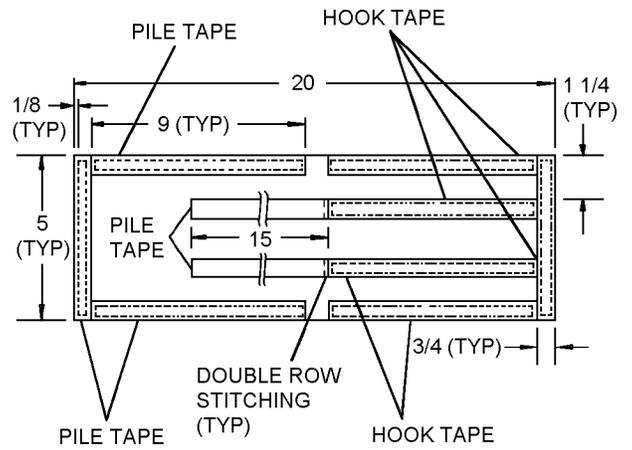

Figure 8-12. Painter Line Pouch
1. Cut and stitch hook and pile tape along edge of material. See figure 8-12.
2. Stitch two 9-inch lengths of hook tape 1 1/4 inch from sides. See figure 8-12.
3. Position face up a 15-inch length of pile tape at inner end of each inside strip of hook tape. Secure inner end of each pile tape to material with double row of stitching. See figure 8-12.